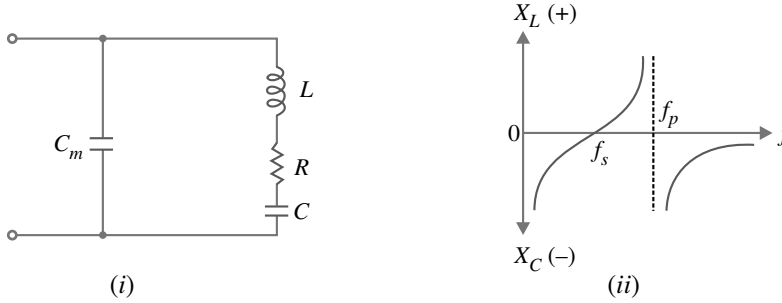

Fig. 12.28
When the crystal is vibrating, its equivalent electrical circuit is as shown in Fig. 12.28 (i). The capacitance values of  $C$  and  $C_m$  are relatively low (less than 1 pF for  $C$  and 4 – 40 pF for  $C_m$ ). Note that the value of  $C$  is much lower than that of  $C_m$ .
- (i) At low frequencies, the impedance of the crystal is controlled by extremely high values of  $X_{C_m}$  and  $X_C$ . In other words, at low frequencies, the impedance of the network is high and capacitive as shown in Fig. 12.28 (ii).